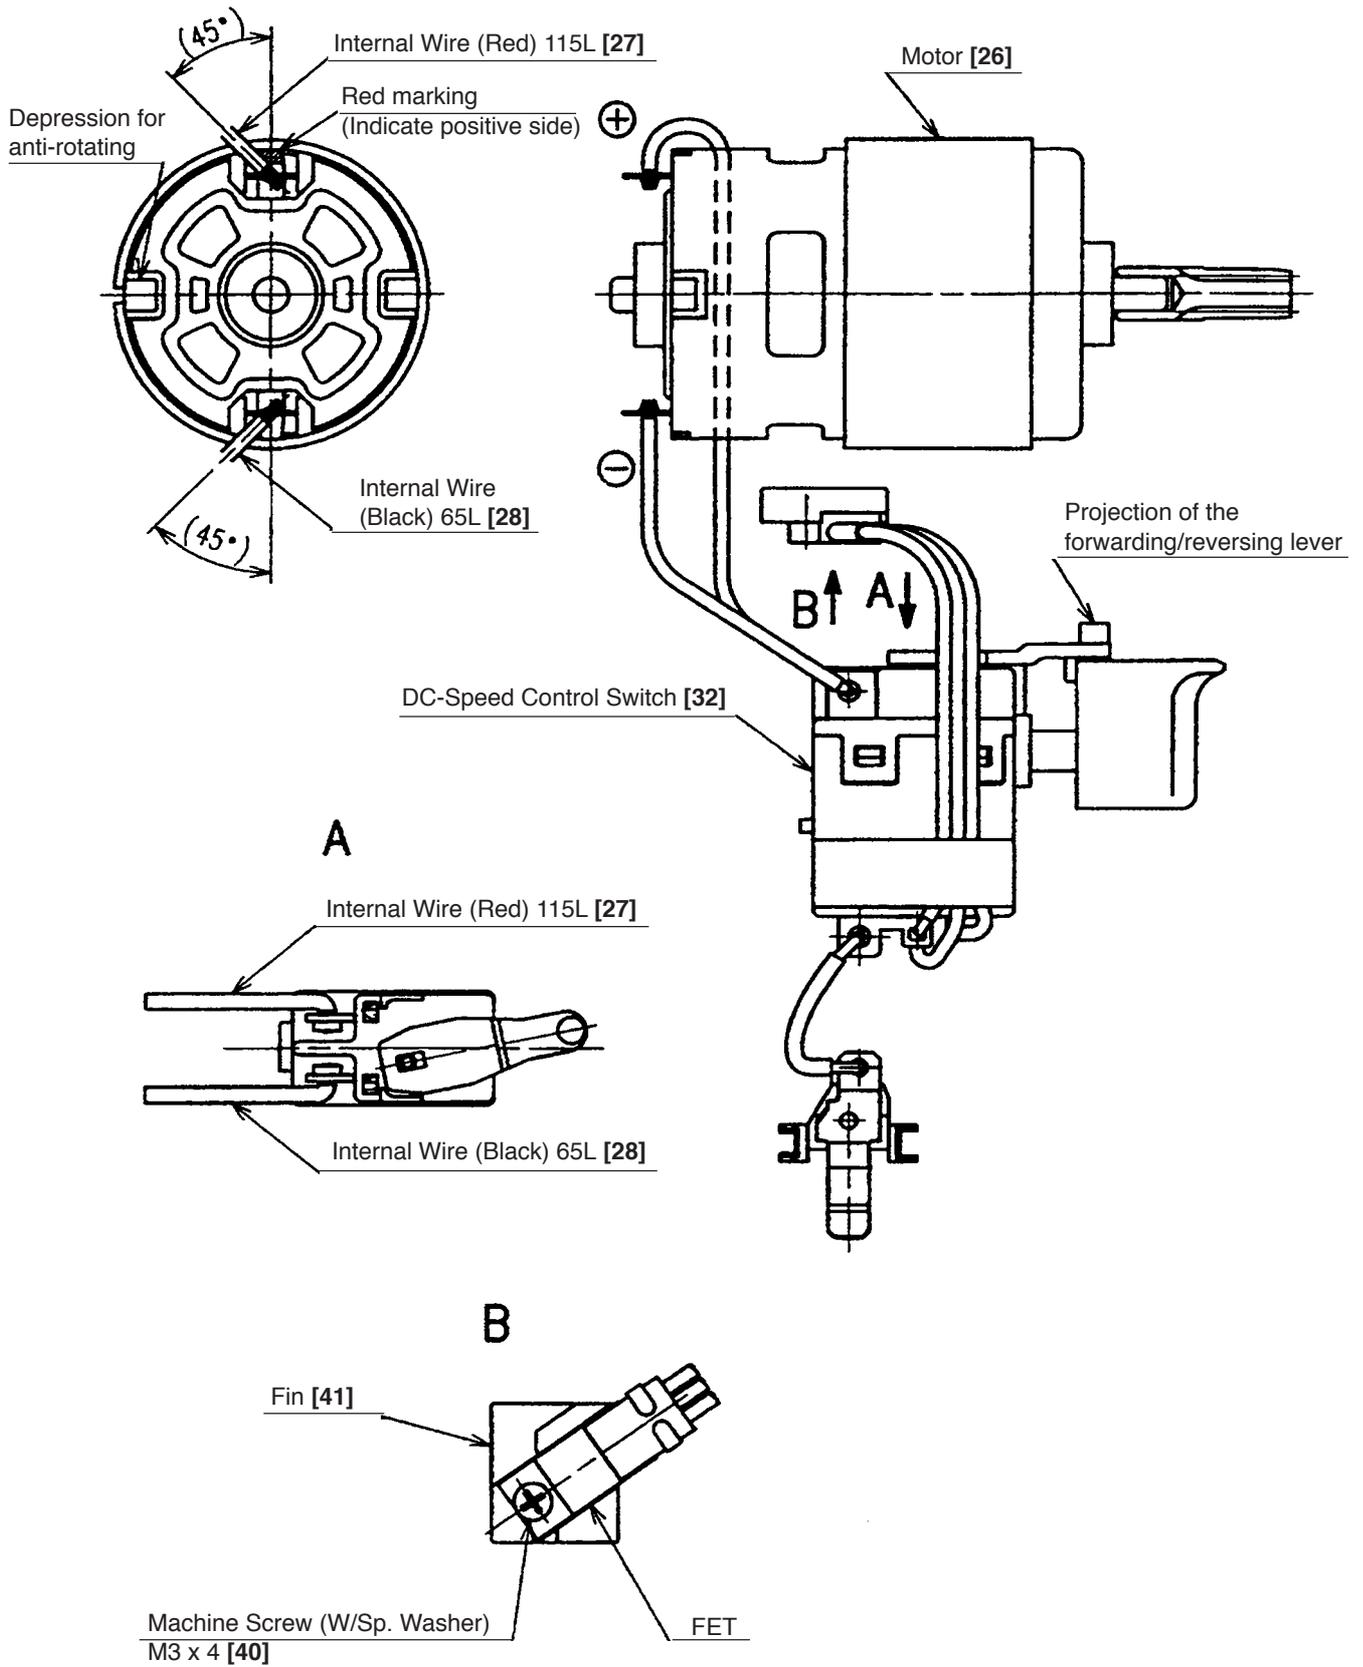

Fig. 10
- (a) Be sure to follow the wiring diagram (Fig. 10 ) for proper wiring.
- (c) When mounting the Motor [26] into housing (A), pay attention to the position of the Internal Wire (Red) 115L [27] and the depression for preventing motor body from rotating in housing (A).
**NOTE: Make sure that the Internal Wire (Red) 115L [27] is passed under the motor so that it is not caught between the motor and housing (A).**
- (d) Mount the DC-Speed Control Switch [32] to housing (A) so that the projection of the forwarding/reversing lever at the top of the switch is inserted into the U-shaped groove of the Pushing Button [33]. Secure the Fin [41] to the FET of the DC-Speed Control Switch [32] with the Machine Screw (W/Sp. Washer) M3 x 4 [40].